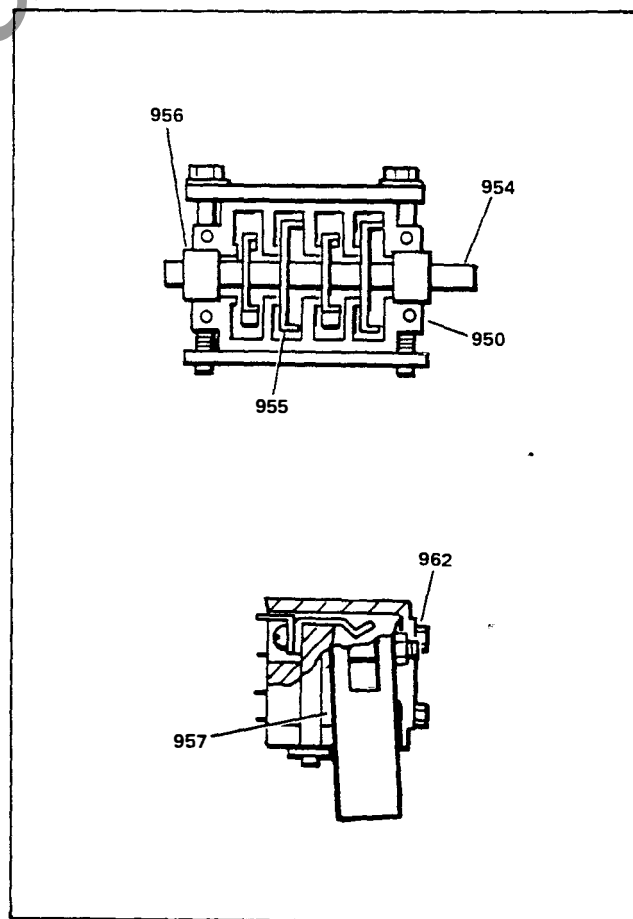

Figure 10. Auxiliary Switch
The auxiliary switch (see Figure 10) is of the rotary type and functions by direct connect to the breaker mechanism. The contacts are factory set for "a" (open when the breaker is open) and "b" (closed when the breaker is open) position, but each rotor (955) may be adjusted individually in steps of 30 degrees. This adjustment is made by removing cover (962) and lifting the entire rotor assembly out of case (950) after disconnecting arm (957) from the linkage. Cotter pin and bearing (956) are removed to permit removal of rotors (955) from shaft (954). To change rotors (955) from "a" to "b" position, the rotor should be rotated 60° in the clockwise direction after removal and replaced on the shaft in this new position.